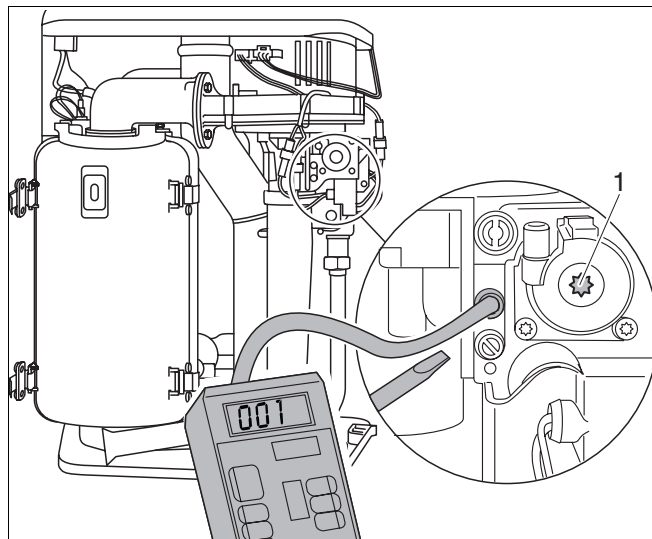

Fig. 81 Check the gas-air ratio
- Unscrew the sealing closure of the burner-pressure testing nipple by one turn (fig. 81).
- Connect the positive terminal of the pressure gauge with a hose to the burner pressure measuring nipple (fig. 81).
- In the event of any anomaly in the gas-to-air ratio, readjust at the setscrew (fig. 81, item 1).